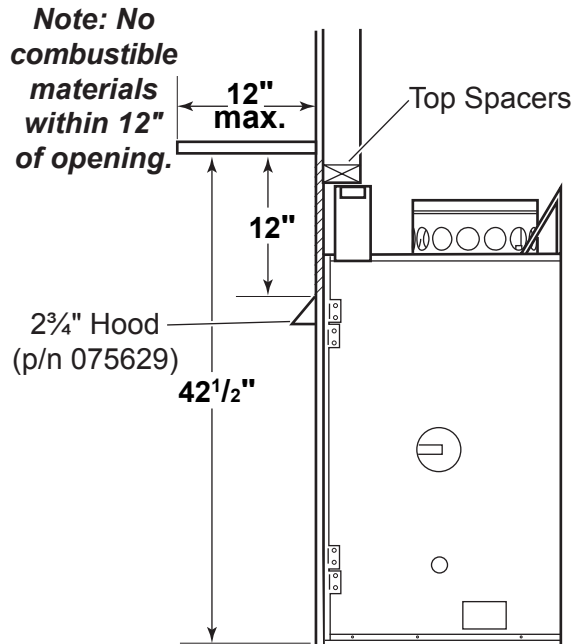

Figure 38 - Locating Mantel 12" from Opening when Using Hood
1. Install hood on fireplace with mantels 12" from the opening of fireplace. Mantel may be no more than 12" deep. Combustible framing members may be placed across top spacers. See *Figure 38*.